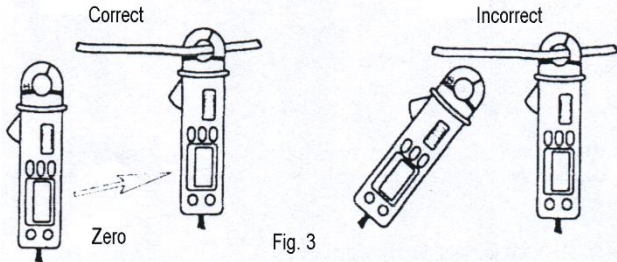

Fig. 3
5. Using the zero switch to zero the reading. Due to the high sensitivity of the clamp meter, must zero in the same direction as in measurement to avoid interference by external magnetic field (see Fig. 3).